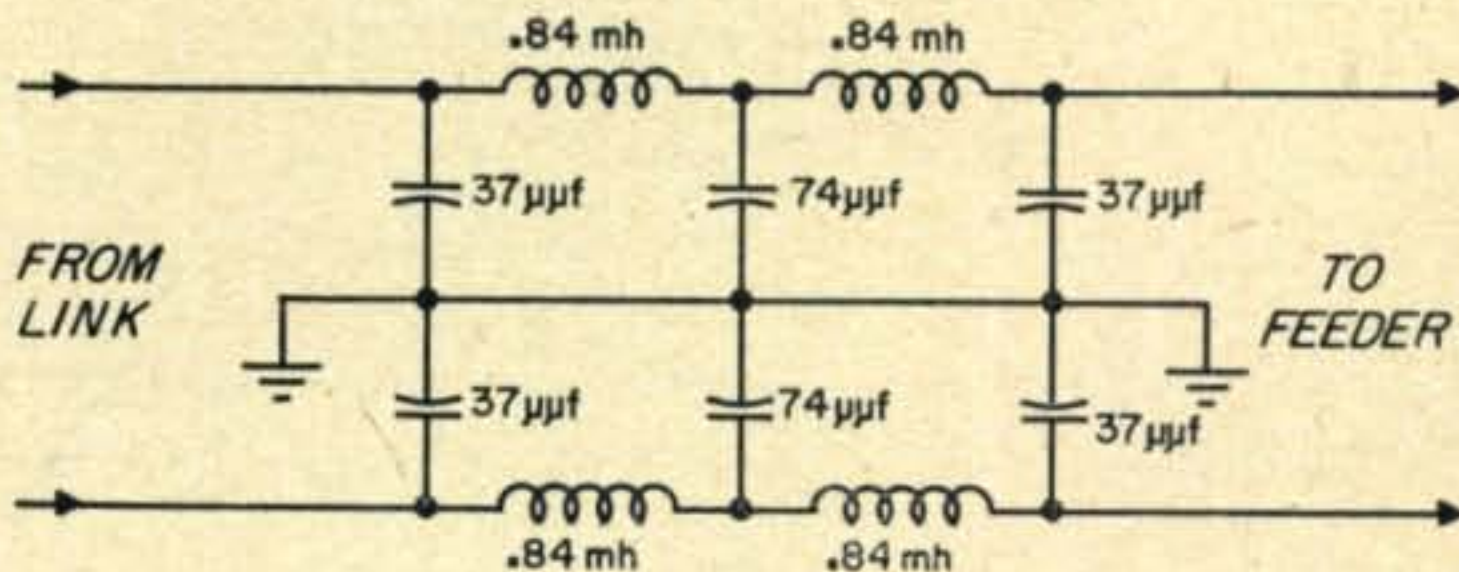

Fig. 2. This simple filter, when inserted as shown in Figure 1, has worked very well with 600-ohm lines.
**Answer:** That's a good question! The usual precautions regarding parasitics, shielding, feedback into the a-c line, etc. should be taken. A low-pass filter in the line is best for all-band operation. If you operate on one band the half-wave "Harmoniker" type is better, but if you are on only one band, why worry about the T2FD? Figure 2 shows a simple low-pass filter satisfactory for 300- to 600-ohm lines. Low-pass filters are available commercially for all line impedances.